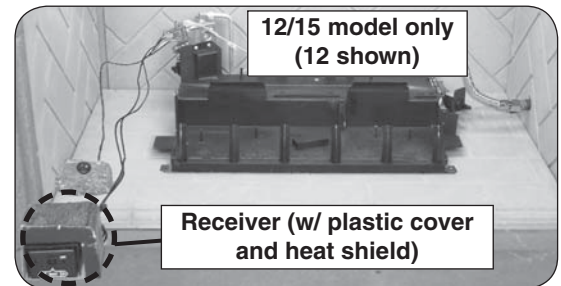

Fig. 20-2 Place remote receiver
3. **Place the remote receiver at the front left corner of the fireplace. Place as far from the burner system as possible.** See Fig. 20-2.
4. Place the plastic cover over the remote receiver with the open side facing forward to allow access to the receiver controls. Then place the decorative heat shield. See Fig. 20-2.